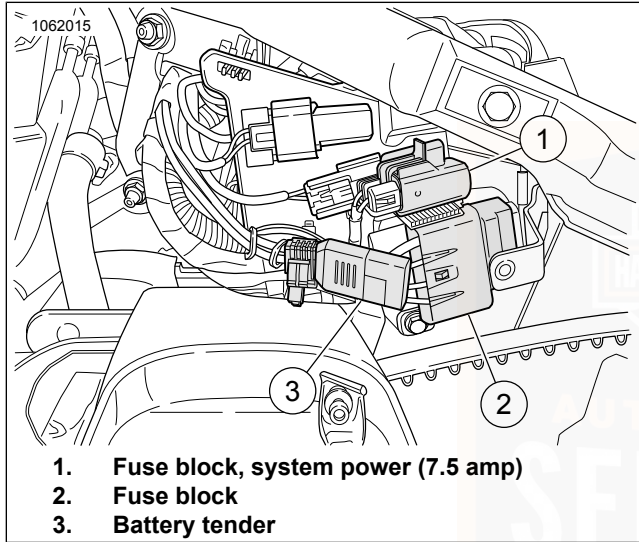
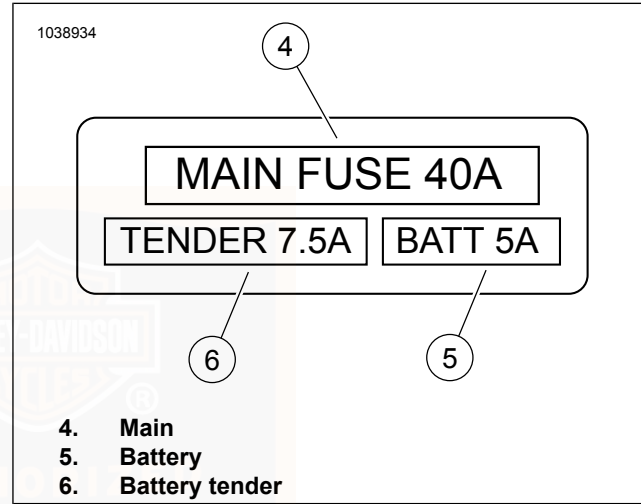

Figure 91. Fuses
Figure 92. Fuse Block
3. See Figure 91 and Figure 92. Remove fuse block from caddy on motorcycle.